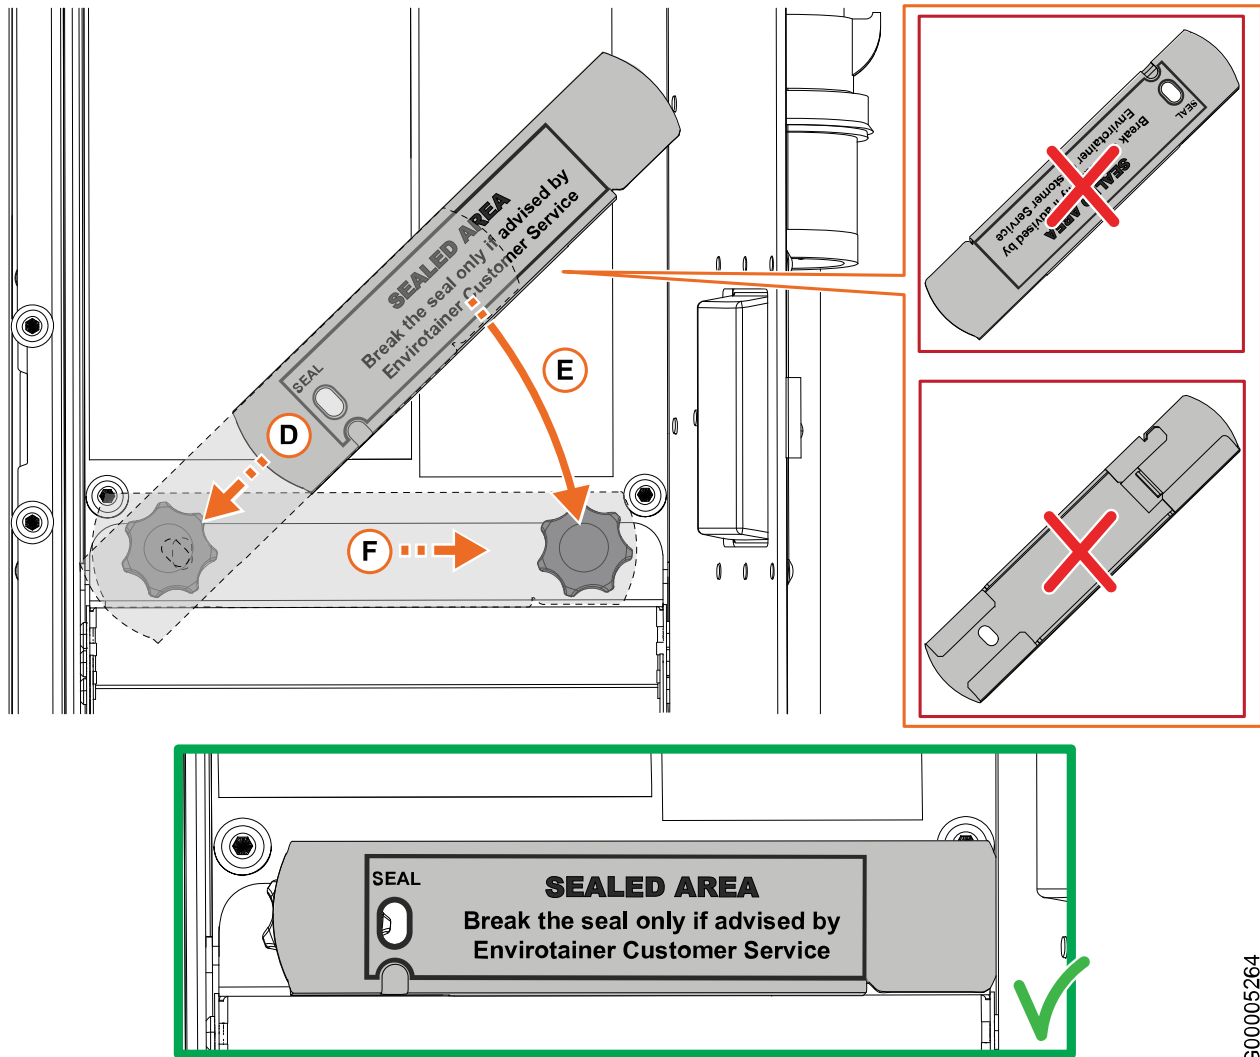

Fig. 32
11. Mount the bracket over the thumbscrews (**Fig. 32**):